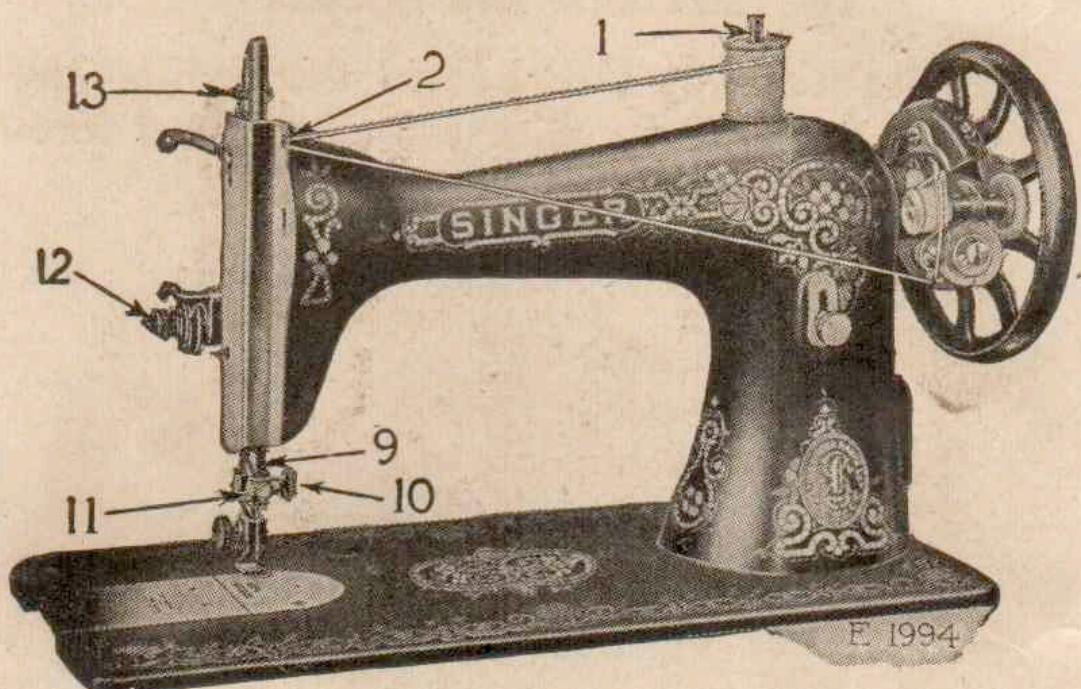
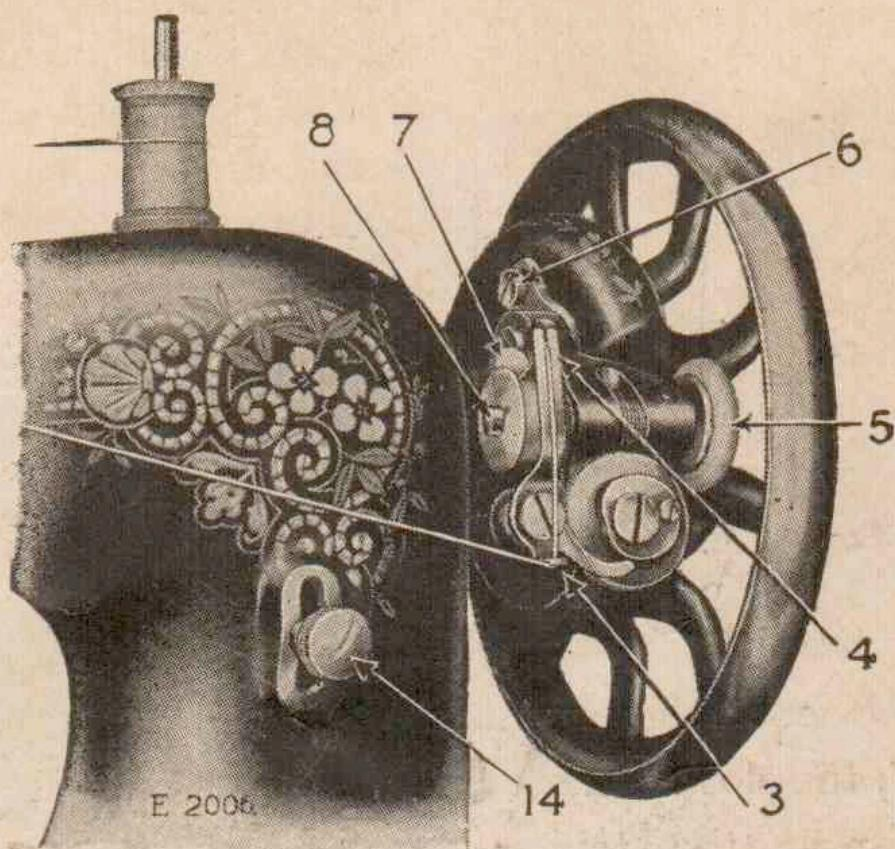

FIG. 5 MACHINE THREADED FOR WINDING THE BOBBIN
FIG. 6. WINDING THE BOBBIN
Place the bobbin on the bobbin winder spindle (8, Fig. 6, page 7) and push it up closely against the shoulder, having the small pin in the spindle enter the slot in the side of the bobbin. Put the spool of thread on the spool pin (1, Fig. 5). Pass the end of the thread into the thread guide (2, Fig. 5) at the left and near the top of the arm, then up into the lower eyelet (3, Fig. 6, page 7) of the bobbin winder thread guide, into the notch (4, Fig. 6, page 7) and pass the thread through the slot in the left side of the bobbin from the inside. Press
the bobbin winder pulley (5, Fig. 6) down on the balance wheel hub, and the latch (7, Fig. 6) will
The end of the thread must be held by the hand until a few coils are wound and should then be broken off. When sufficient thread has been wound upon the bobbin it is automatically released from the stop latch (7, Fig. 6).
If the pressure of the rubber ring (5, Fig. 6) against the hub of the balance wheel is insufficient for winding the bobbin, loosen the adjusting screw (6, Fig. 6) and press the bobbin winder lightly until the rubber ring is in contact with the hub of the balance wheel; then tighten the screw.
Turn the balance wheel over toward you until the needle bar (9, Fig. 5, page 6) moves up to its highest point, loosen the thumb screw (10, Fig. 5, page 6) in the needle clamp (11, Fig. 5, page 6) and put the needle up into the clamp as far as it will go, with its flat side toward the right, then tighten the thumb screw.
*The tension on the needle thread should only be regulated when the presser foot is down.* Having lowered the presser foot, turn the small thumb nut (12, Fig. 5, page 6) at the front of the tension discs over toward you to increase the tension. To decrease the tension, turn the thumb nut over from you.
The length of stitch is regulated by the large thumb screw (14, Fig. 6, page 7) in a slot on the front of the arm near the bobbin winder.
For ordinary family sewing it is seldom necessary to change the pressure on the material. If sewing fine silk or flimsy material, lighten the pressure by giving the thumb screw (13, Fig. 5, page 6) on the top of the machine two or three turns to the left. To increase the pressure turn it over to the right. The pressure should be only heavy enough to prevent the material from rising with the needle and to enable the feed to move the work along evenly; a heavier pressure will make the machine run hard.